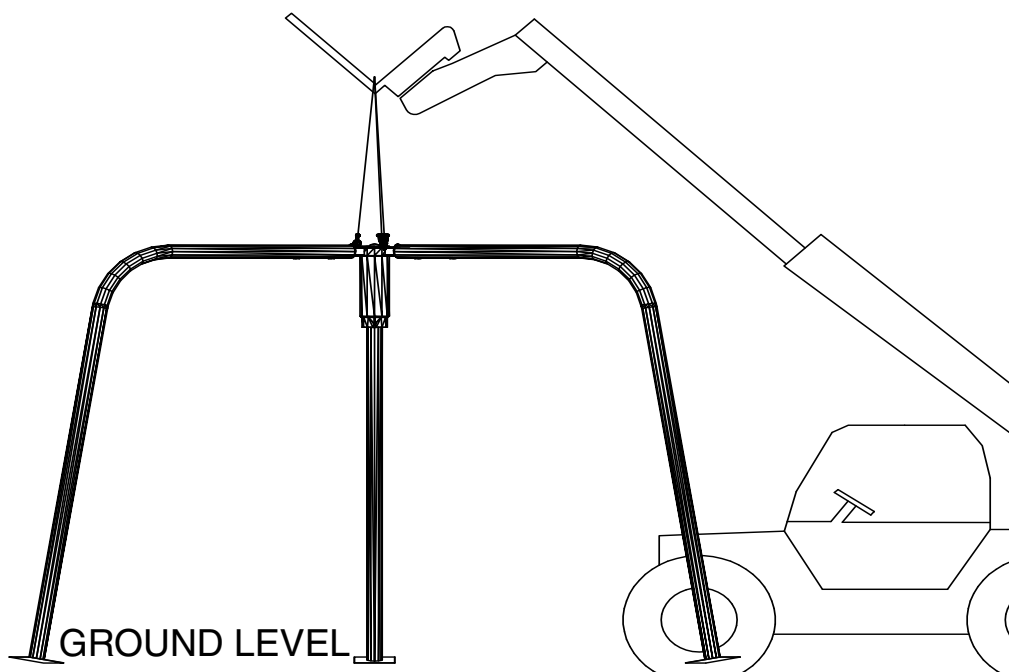

FIG.8
- xii) Continue lifting so that the legs can rotate round on their mounting until they are free to hang in their fixing position. (FIG.8)